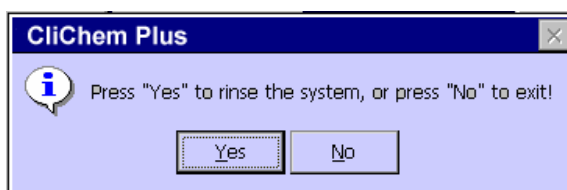

Figure 2-13 Rinsing indication
- Click "Back" button, the system will indicate the following information (figure 2-13), and then turn back to the previous menu.